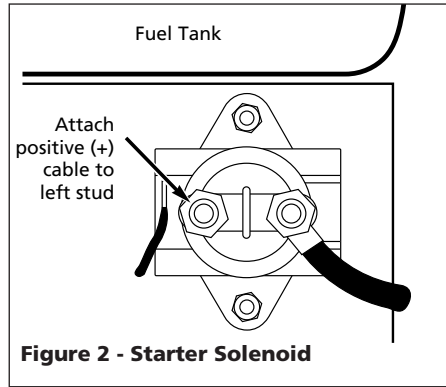

Figure 2 - Starter Solenoid
3. Attach the positive (red) battery cable to the left stud and reinstall the 1/4" nut. Tighten the nut one full turn after it is finger tight (See Figure 2).